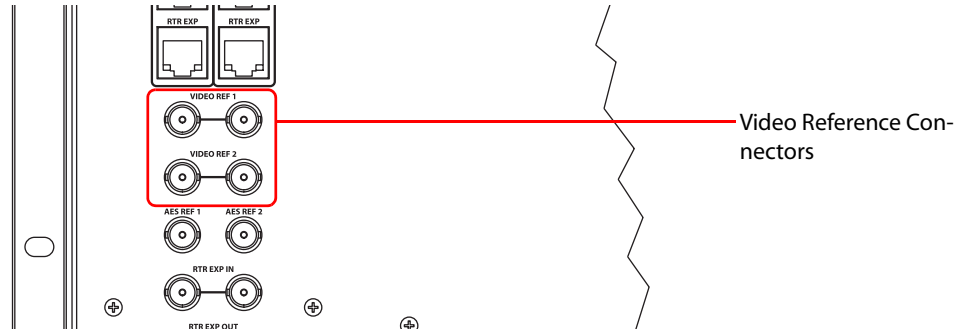

Fig. 2-23: Video Reference Connections (Rear View)
- 1 Locate the video reference connections on the rear of the router, as shown in Figure 2-23. Video reference connections are labeled **VIDEO REF 1** and **VIDEO REF 2**.